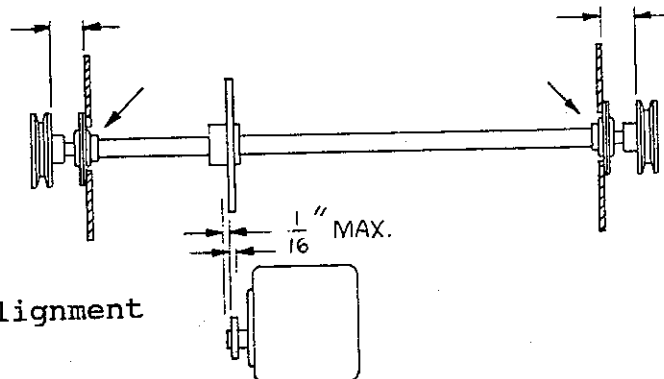

Fig. 9 Low Torque Drive Sprocket Alignment
- b. Make sure the jackshaft is centered. To adjust, measure the distance between the inside of the posi-trac drive pulleys and the outside surface of the tank/handle support plate (see Figure 9). Do this for both sides (two pulleys). Before taking this measurement, make sure the posi-trac pulleys are snug up against the jackshaft shoulder (if they are not, adjust them and retighten setscrews). This measurement should be approximately 1-1/4" on both sides and should be within 1/16" of each other. If no adjustment is required, check the bearing lock collars and setscrews (make sure they are tight). If adjustment is necessary, loosen the setscrews and lock collars of the jackshaft bearings. Remove the left and right fenders. Tap one end or the other of the jackshaft until the measurement is equal between the inside of the pulley and the surface of the support plate on both sides. Tighten the bearing lock collars and setscrews and replace the fenders.
- d. If realignment is necessary, loosen the jackshaft sprocket setscrew. Using a 6" straight edge as per 5.1.12, slide the sprocket until it is within the 1/16" allowable range to left or right of the transmission matching left surface of sprockets. See Figure 9. Resecure the sprocket setscrew and replace the chain guard.